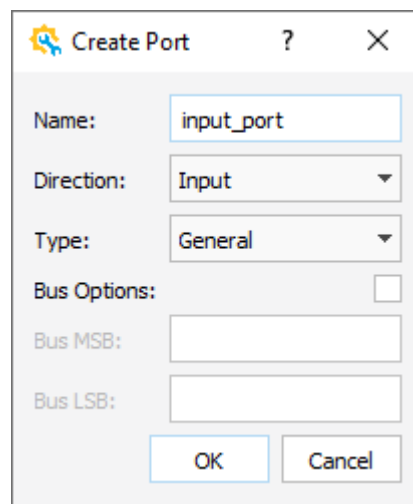

Figure 2.68. Create Port Dialog Box
- a. Right-click in the Schematic view, and choose **Create Port**. The Create Port dialog box pops up (Figure 2.68).